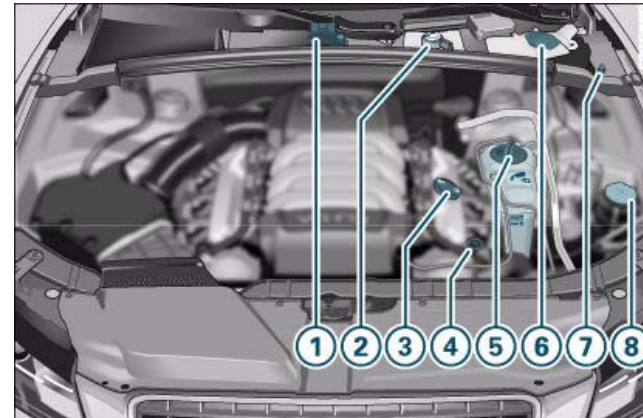

Fig. 223 Typical locations of fluid containers, engine oil dipstick and engine oil filler cap
① Jump-start terminal (+) under a cover	241, 266
② Brake fluid reservoir (☀)	238
③ Engine oil filler cap (🛢)	234
④ Engine oil dipstick (orange)	234
⑤ Radiator expansion tank (🔵)	236
⑥ Windscreen washer container (🌊)	242
⑦ Jump-start terminal (-) with hexagon head	241, 266
⑧ Hydraulic fluid reservoir for power steering	201 ▶
The positions of the engine oil filler cap and the engine oil dipstick ⇒ *page 232*, fig. 223 (items ③ and ④) may be different on some engine versions. ■